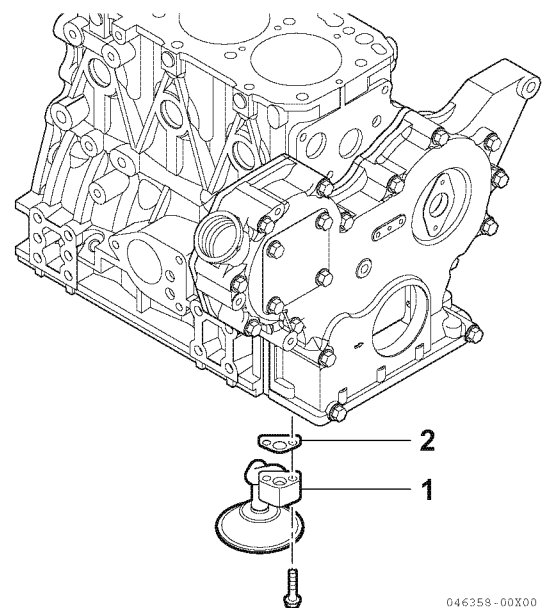

Figure 6-47
3. Remove the oil pickup tube (Figure 6-47, (1)) and O-ring (Figure 6-47, (2)).